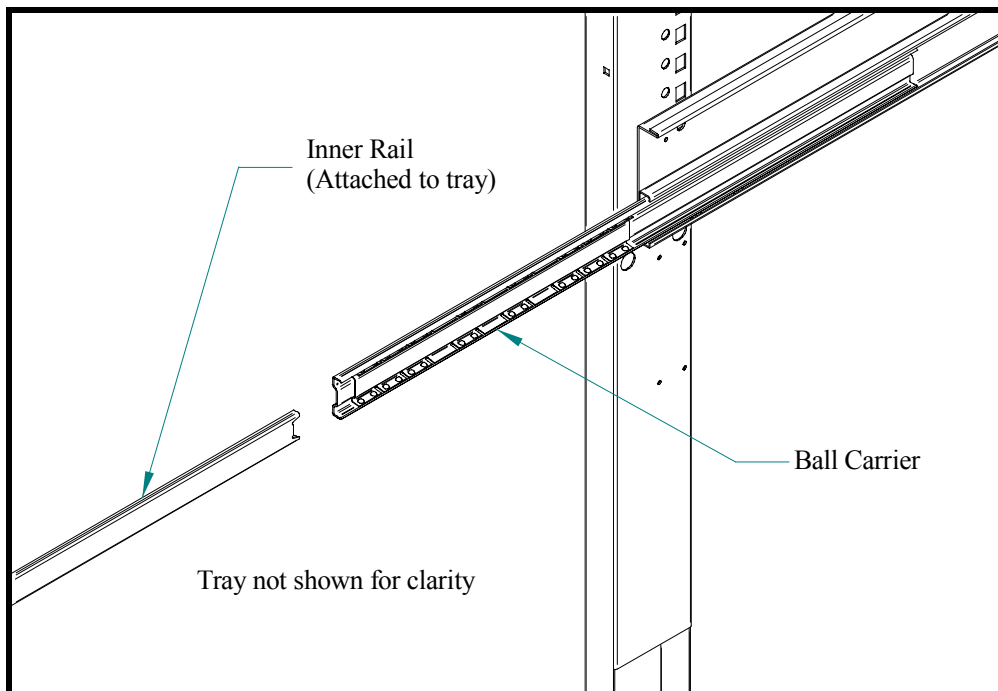

Figure 9. Bottle Tray Rails
2. Move the ball carriers out to the ends of the slide rails (see Figure 9) and hold in position.